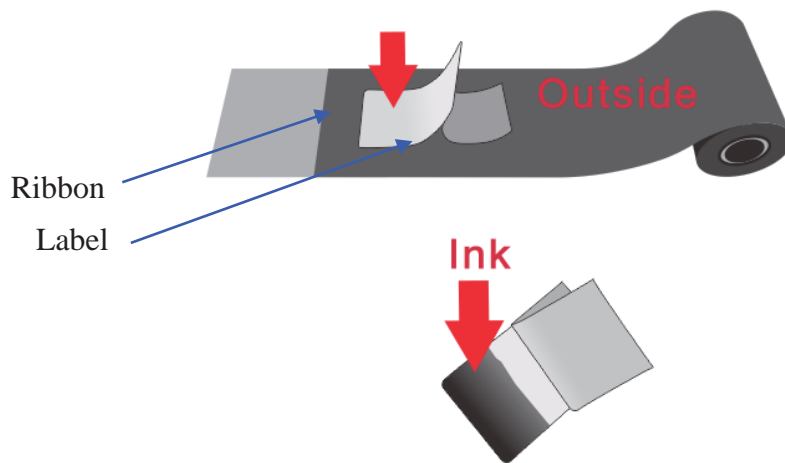

Figure 2-9 Check Ink Side
3. Stick a label to the outside/ inside of the ribbon to check which side the ink is on. See Figure 2-9.